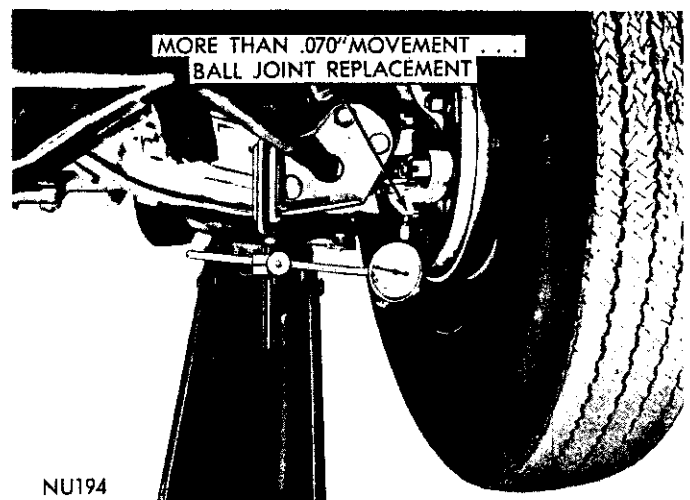

Fig. 15—Measuring Lower Ball Joint Axial Travel
(1) Raise the front of vehicle and install safety floor stands under both lower control arms as far outboard as possible. The upper control arms must not contact the rubber rebound bumpers.
(2) With the weight of vehicle on the control arm, install dial indicator and clamp assembly to lower control arm (Fig. 15).
(3) Position dial indicator plunger tip against ball joint housing assembly and zero dial indicator.
(4) Measure axial travel of the ball joint housing